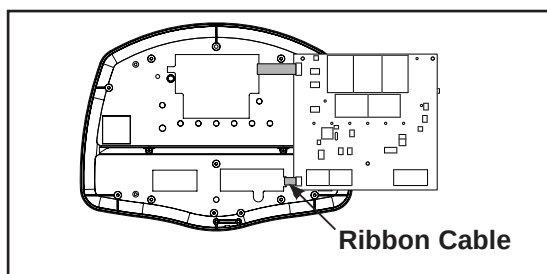

Figure 14
- B. Unplug the bottom membrane ribbon cable from the the main display PC board. See Figure 14.
- E. Plug the A/V membrane ribbon cable into the main display PC board. See Figure 14.